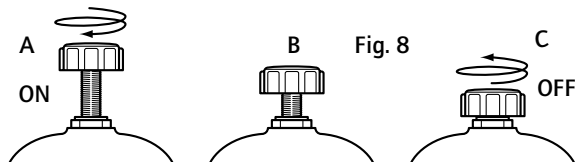

Fig. 8
- Completely unscrew the bypass button on the top of the unit (Fig.8-A), the Dosatron is working and sucking product.
- Completely screw the bypass button (Fig. 8-C), the Dosatron stops (no more noise) and does not suck product any more. The water continues to flow through the unit.
ATTENTION : The median position is the draining position (Fig. 8-B). It is normal that the bypass screw is leaking when the bypass is in the median position.